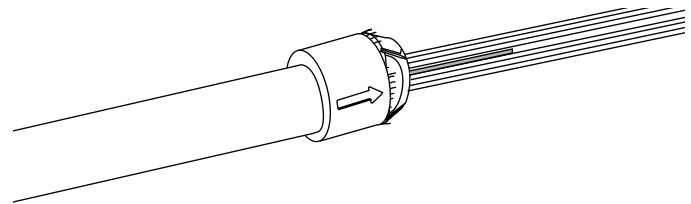

Figure 9
4.16 Slide the ring over the the end of the cable sheath so that the split end of the sheath and aramid yarn is caught between the parts (Figure 9).